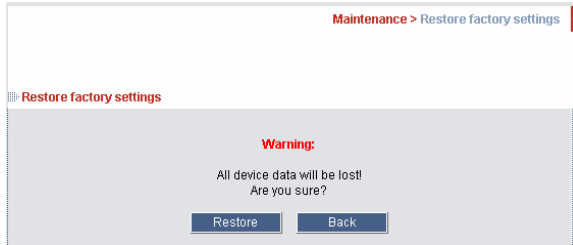

Figure 17 Restore factory settings
1. From the menu select **Restore Factory Settings**. Restore Factory Settings appears see Figure 17.